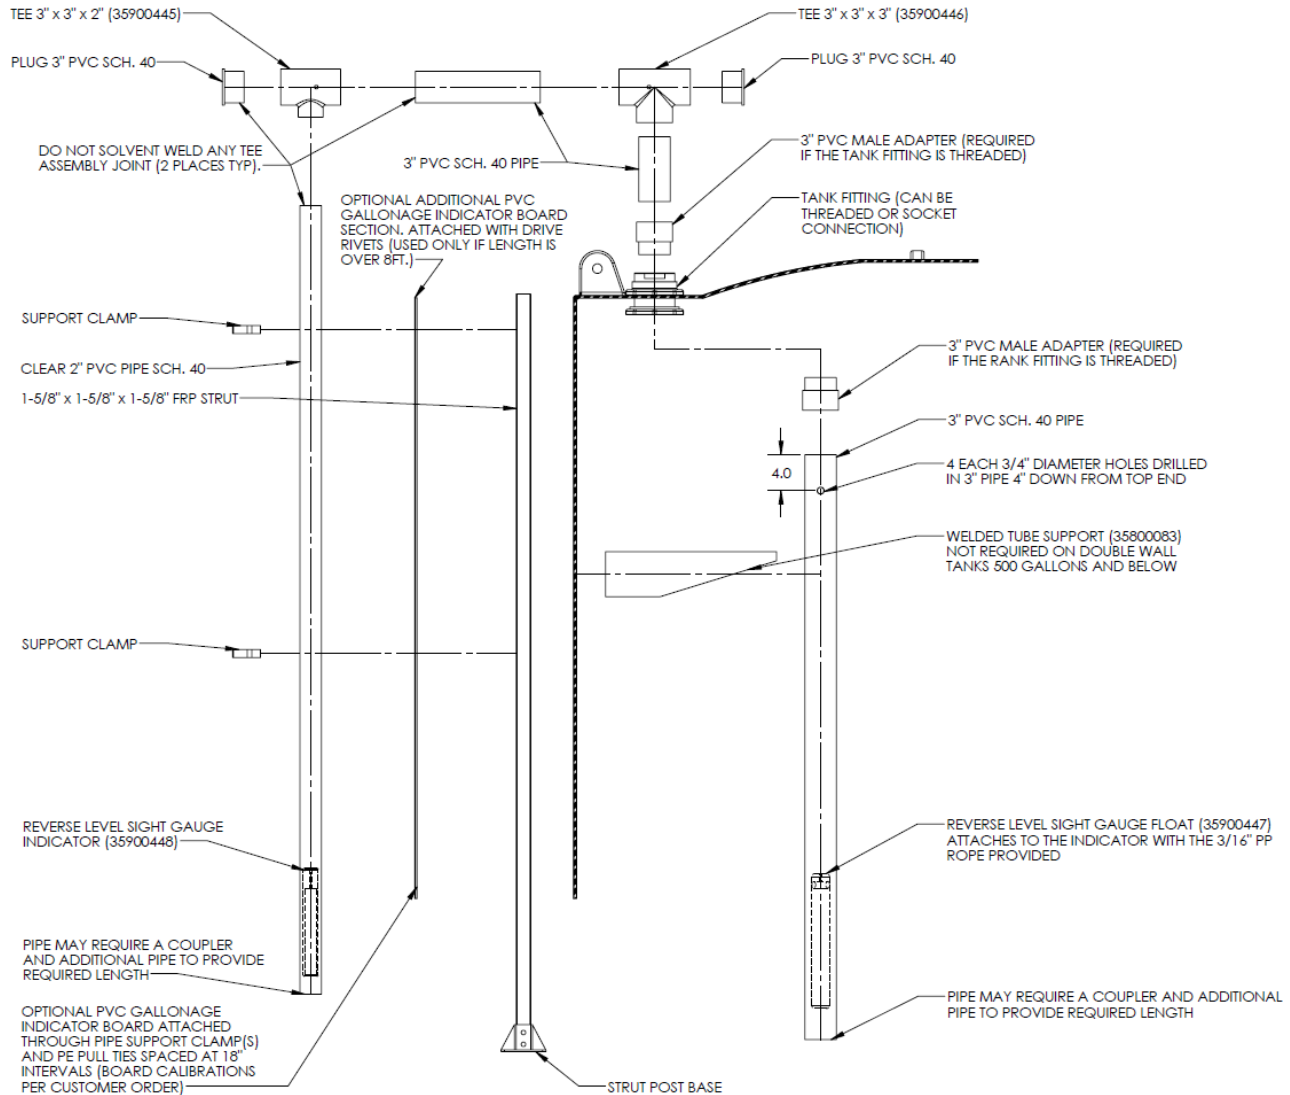

Figure 7.9
7.9.2 Assemble the piping loosely using Figure 7.9, the guidelines detailed below, and the customer approved tank drawing to ensure all parts are present and cut to length. As soon as all parts have been checked, assemble the parts with solvent weld cement and/or threaded connections as shown in Figure 7.9. NOTE - Do not use solvent weld cement on the PVC plugs as indicated in Figure 7.9 to allow for periodic inspection of the rollers in the tee assemblies and the rope to ensure proper operation of the gauge. If it is a requirement to seal these joints, a silicone based caulking should be sufficient.
7.9.3 Mark the strut post base on the concrete when in proper position. Install 4 ea. 3/8" adhesive anchors and secure the base into position. Make sure that the gallon indicator board (if ordered) has been installed between the strut catcher and pipe clamp as shown in Figure 7.9. Assemble and install piping as per the customer approved drawing. As piping is being installed on the tank, squeeze the pipe clamps together to secure the pipe to the FRP channel.